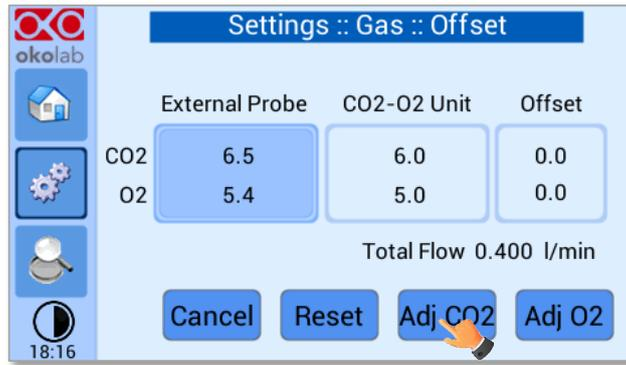

Figure 47. Manual Calibration Correction.
Note ► The Touch Screen will go back to the previous screen. It will display on the left (*External Probe* tab) the CO₂ and O₂ levels read by the external Gas meter, as just input. The value in CO₂-O₂ Unit tab is the value read by CO₂-O₂-UNITL-BL [0-20; 1-95] (see Figure 47).
8. Press *Adj CO₂* (see Figure 47) and/or *Adj O₂* to make a calibration using the input value from LEO as a reference.